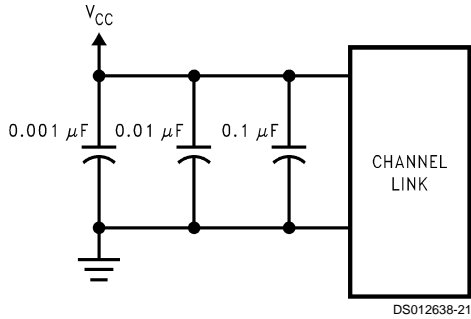

FIGURE 19. CHANNEL LINK Decoupling Configuration
**DECOUPLING CAPACITORS:** Bypassing capacitors are needed to reduce the impact of switching noise which could limit performance. For a conservative approach three parallel-connected decoupling capacitors (Multi-Layered Ceramic type in surface mount form factor) between each  $V_{CC}$  and the ground plane(s) are recommended. The three capacitor values are 0.1 μF, 0.01μF and 0.001 μF. An example is shown in *Figure 19*. The designer should employ wide traces for power and ground and ensure each capacitor has its own via to the ground plane. If board space is limiting the number of bypass capacitors, the PLL  $V_{CC}$  should receive the most filtering/bypassing. Next would be the LVDS  $V_{CC}$  pins and finally the logic  $V_{CC}$  pins.